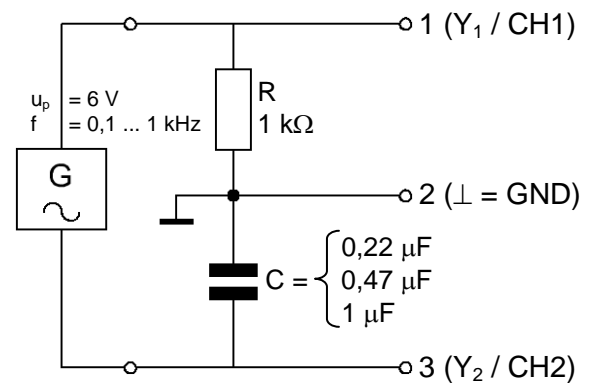

Fig. 13.4.2.1: Exercise circuit to examine the relationship between  $X_C$ ,  $f$  and  $C$
The response of the capacitive reactance XC will now be examined using the circuit shown in Fig. 13.4.2.1. The current flowing in the capacitor can be calculated from the voltage drop UR across the resistor R = 1 kΩ (UR and IC in phase).
- Assemble the circuit in Fig. 13.4.2.1 on the Electronic Circuits Board.
- Connect the 2-channel oscilloscope as shown in Fig. 13.4.2.1.